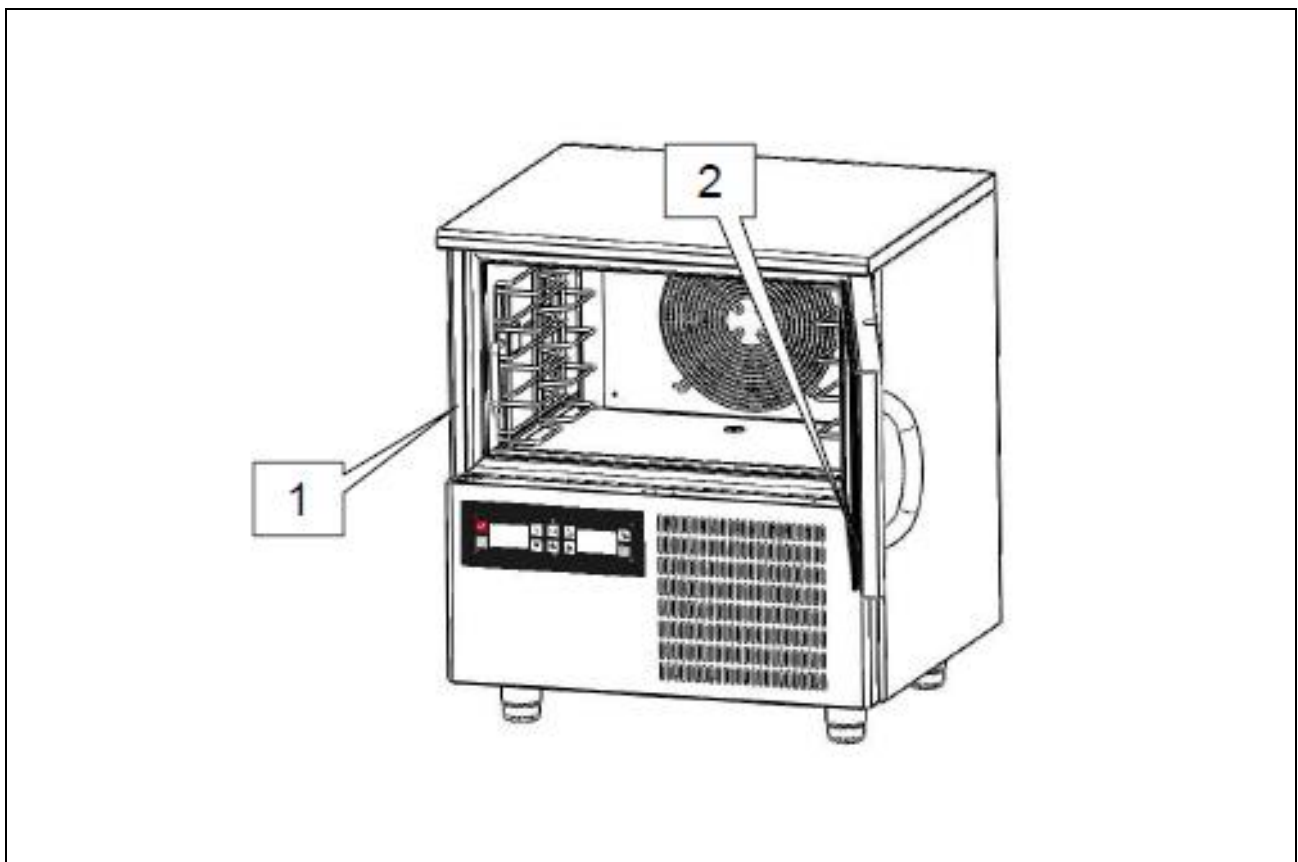

Fig. 8
Clean very carefully the internal part of the chamber, the door closure surface (ref. 1 fig. 8) and gasket (ref. 2 fig. 8), using a non-abrasive sponge soaked in neutral detergent. Rinse with a sponge soaked in water and dry with a clean cloth.